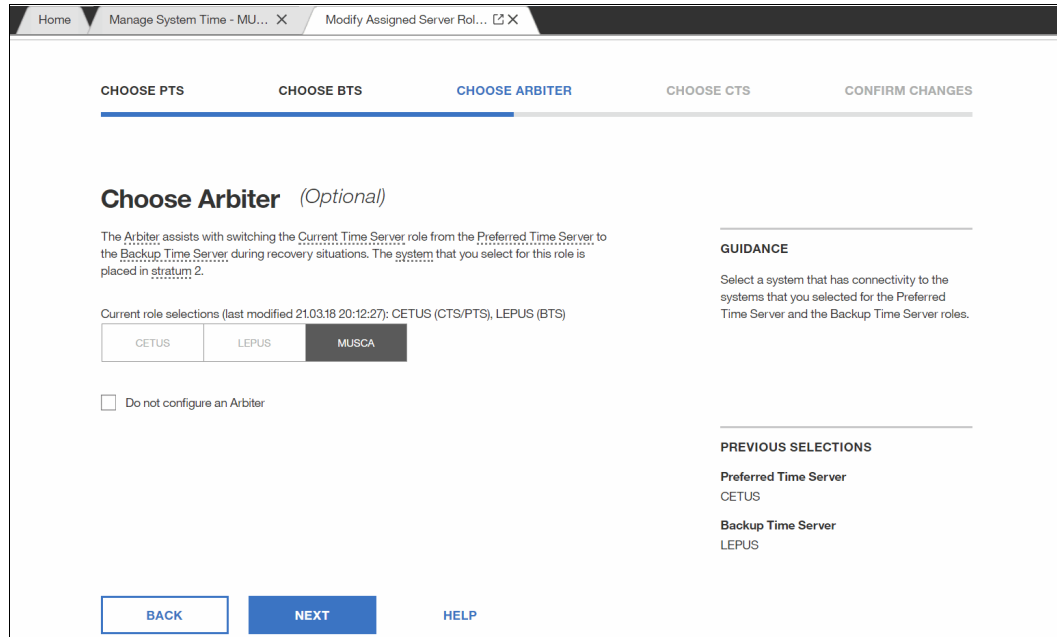

Figure 8-64 Choose Arbiter (Optional) window
- The Choose Arbiter window opens. For now, a third server is in the CTN; therefore, we can select **MUSCA** to take the Arbiter role. Click **NEXT** to continue (see Figure 8-64).